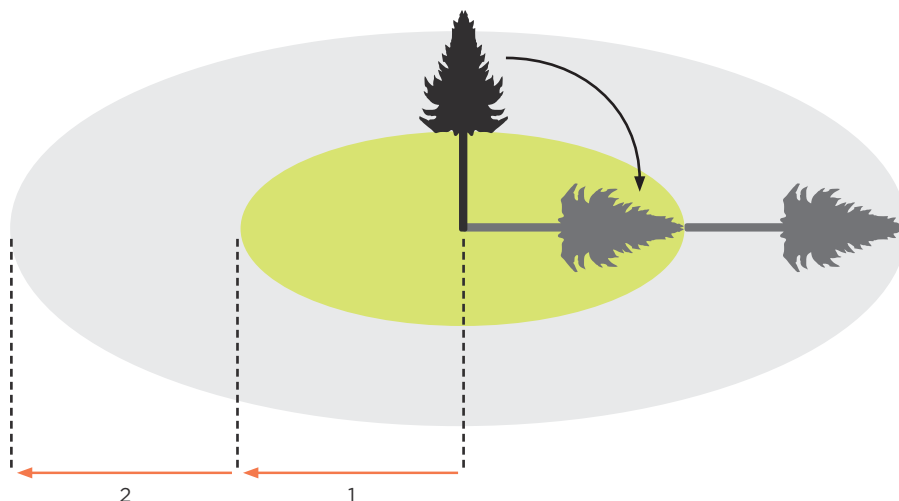

FIGURE 23:
21.8.1 The danger zone of a felled tree is a circle from the stump that stretches out twice the height of the felled tree (Figure 23).
- 21.13.2 The danger zone associated with a dead tree consists of a circle with the centre at the base of the dead tree and with a radius of two tree-lengths. (Figure 23).